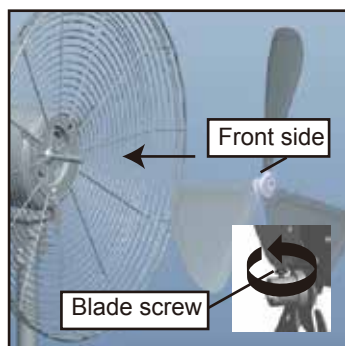

Figure 11.
3. Remove the plastic sleeve from the motor shaft. Loosen the **screw** at the back of the Fan Blade, and slide the **Fan Blade** onto the motor shaft. **Figure 11**.